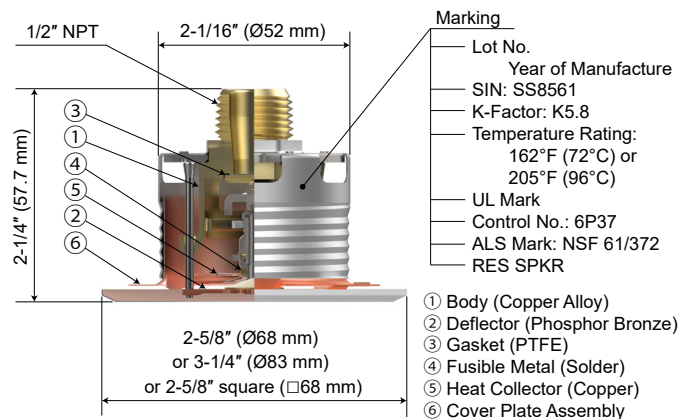

Figure 1: Model RC-RES K = 5.8
- **Physical Characteristics:** Ref. Figures 1 and 1.1